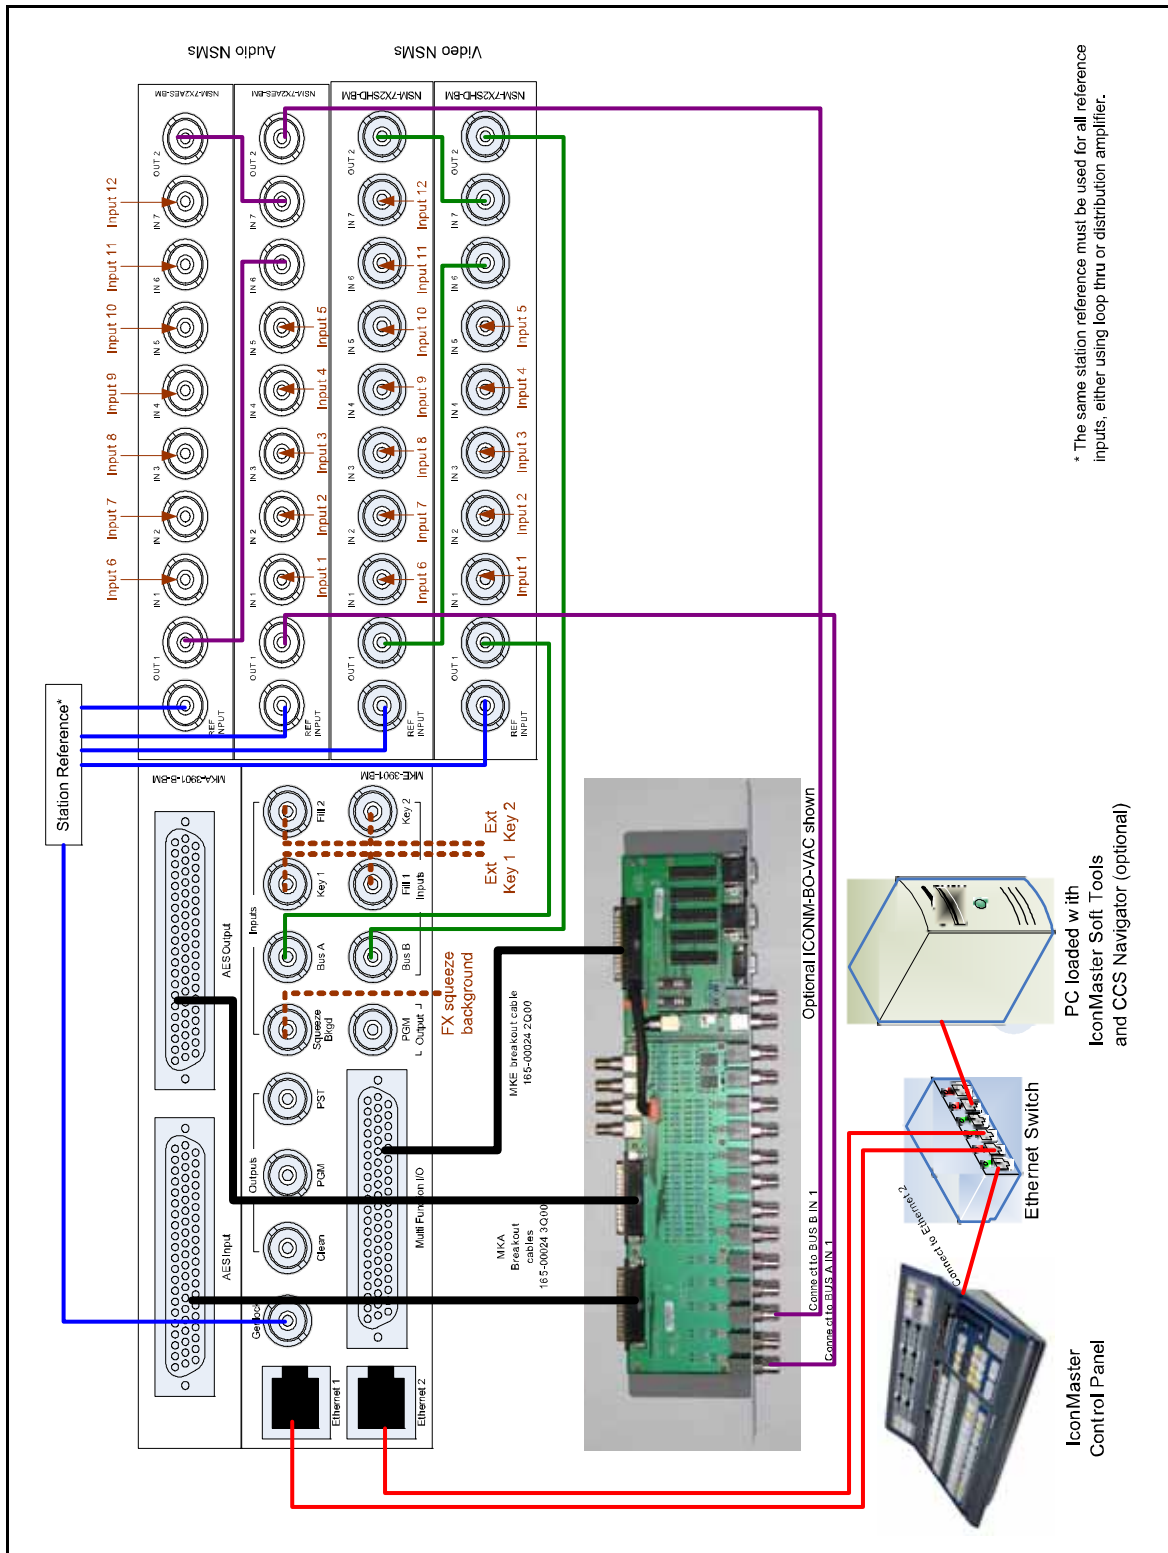

Figure 4-6. IconMaster System with Internal (Single Channel) Audio and Video NSM Internal Routers and Optional ICONM-BO-VAC Module
Figure 4-6 on page 84 shows a detailed illustration of this process.
1. Connect your composite station reference to the **Ref Inputs** and **Genlock** connection as shown in Figure 4-6.